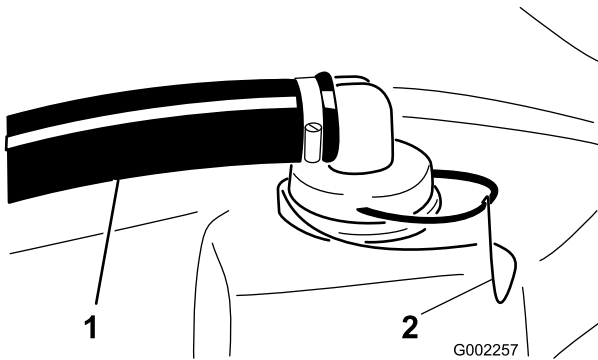

Figure 55
2. Remove the retainer from the red fitting attached to the large hose on the top of the tank (Figure 55).
3. Disconnect the hose from the tank (Figure 55).